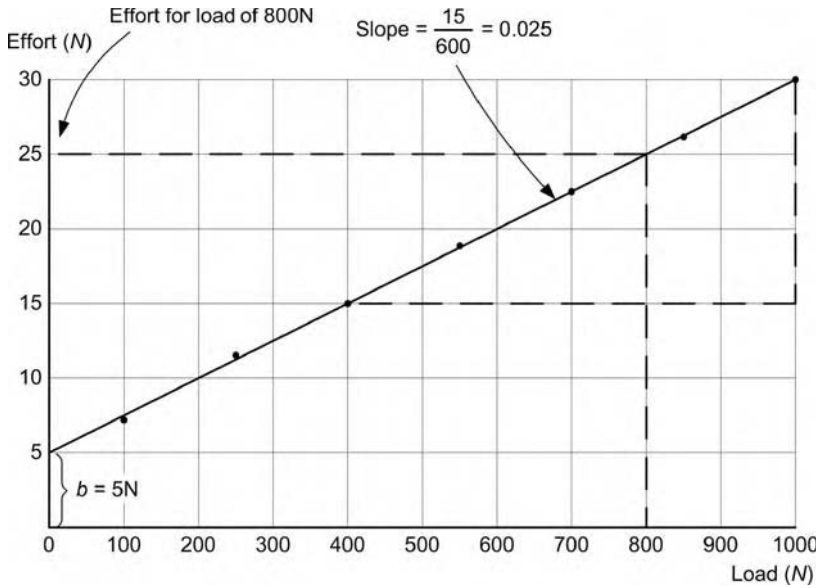

Figure 4.73 Effort against load graph.
- (b) By plotting the above effort against load figures, the graph (Figure 4.73) is produced.